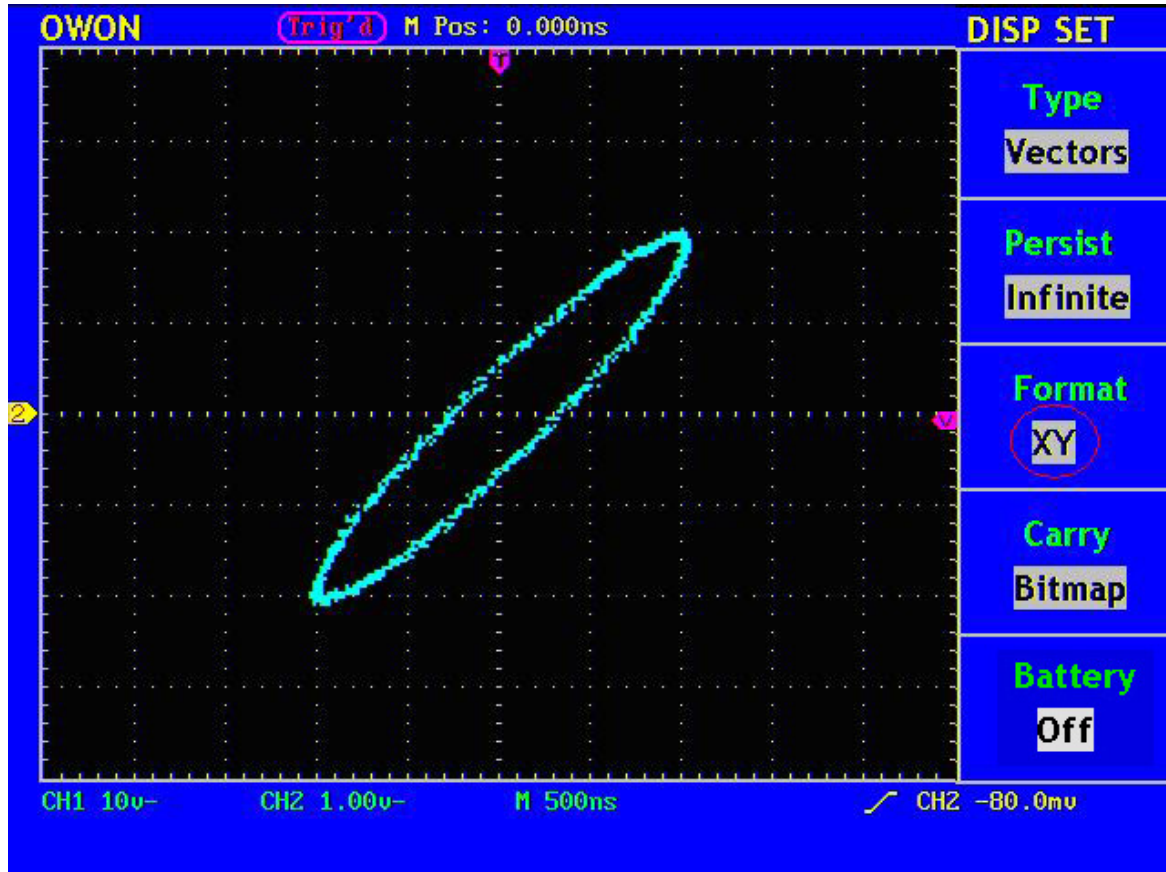

Fig. 44 XY Display Mode
2. Press the **F3** menu selection button and choose the form as XY. The display format is changed to be XY mode (see Fig. 44).